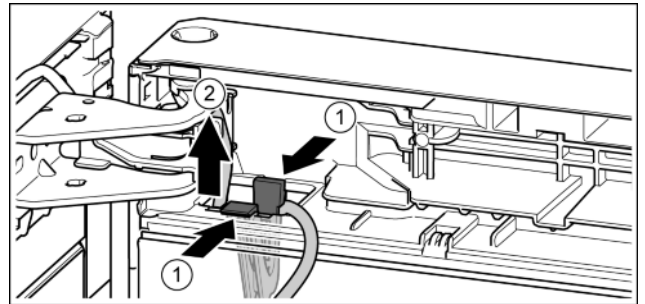

Fig. 19
- ▶ Press the tab. Fig. 19 (1)
- ▶ Remove the cable holder with its cable. Fig. 19 (2)